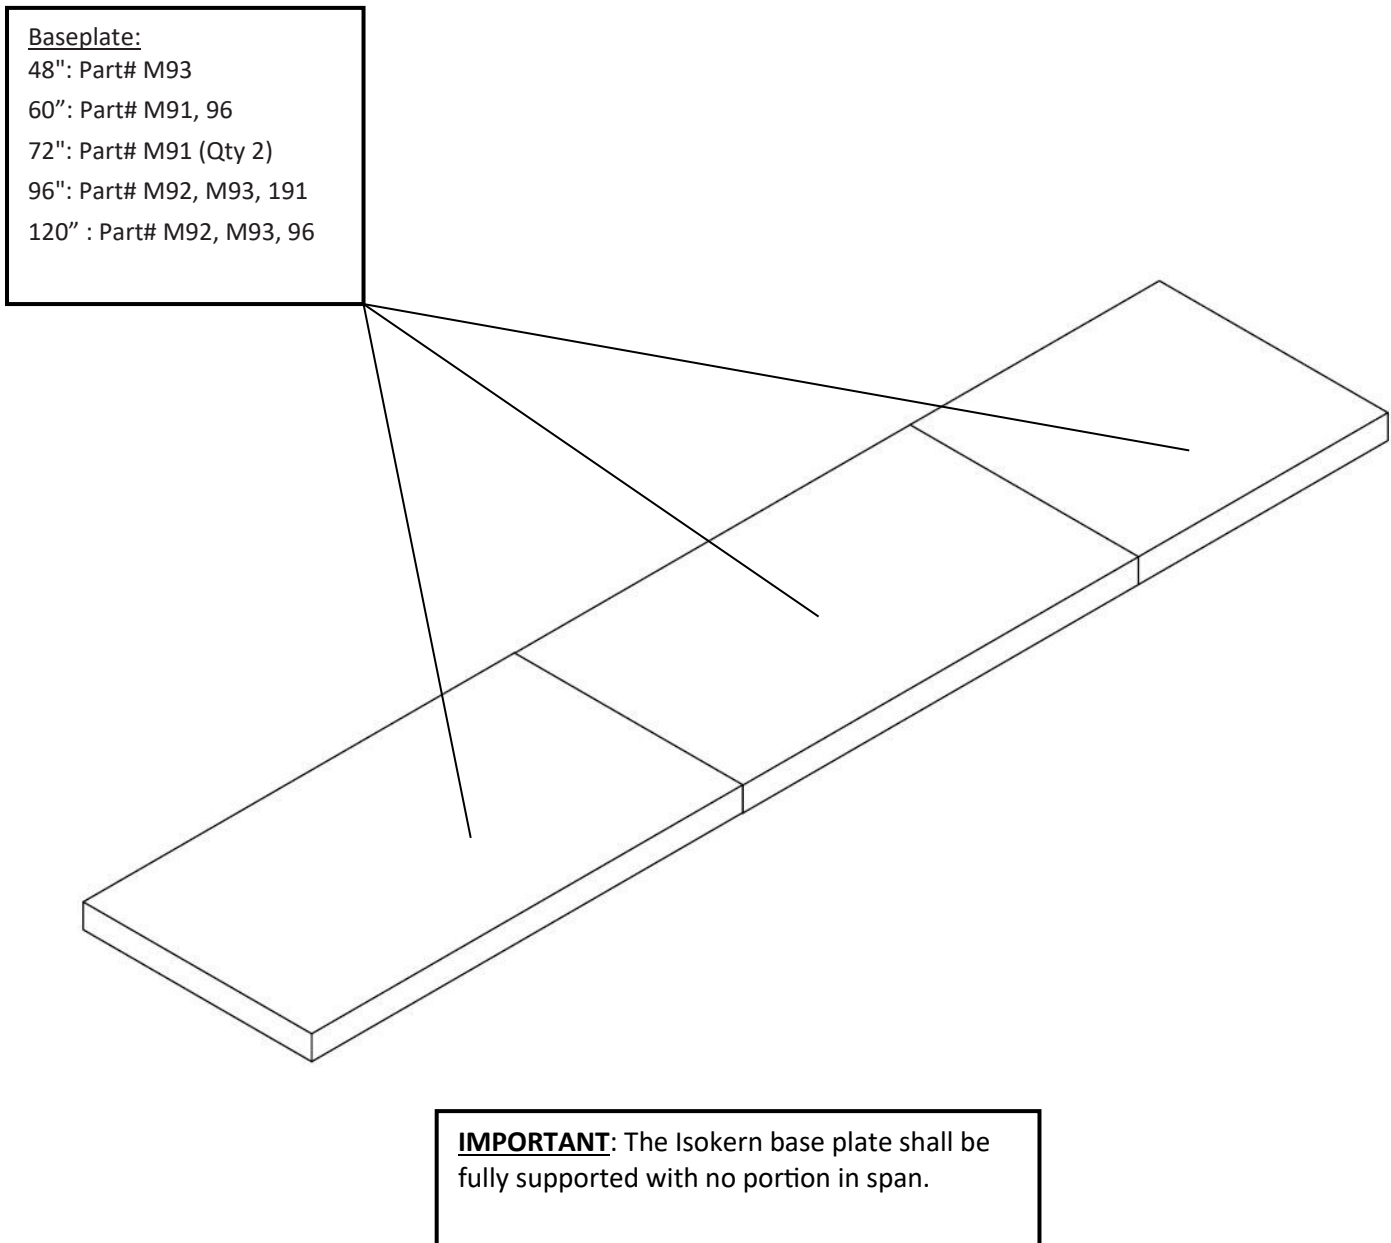

FIGURE 9
- 1) Apply Earthcore Adhesive to the joints between each baseplate part and ensure to set each base plate in a full bed of Earthcore Adhesive on a level support surface (**Figure 9**). See page 17 for information regarding the supporting floor system. Do not set the base plate so that it is in span. Refer to pages 6-15 for part and assembled firebox dimensions.